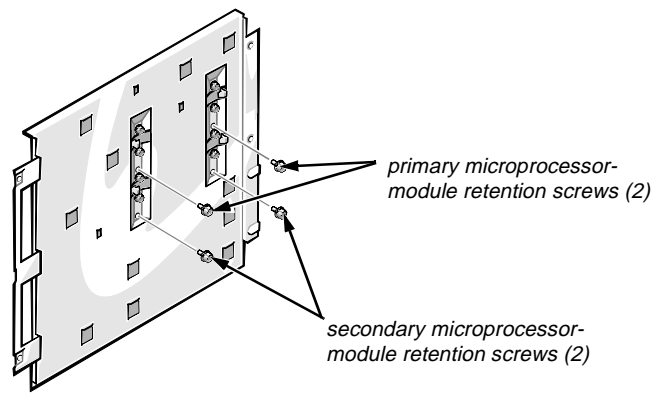

Figure 4-19. Microprocessor Module Retention Screws
- a. Remove the two screws securing the microprocessor module (see Figure 4-19).